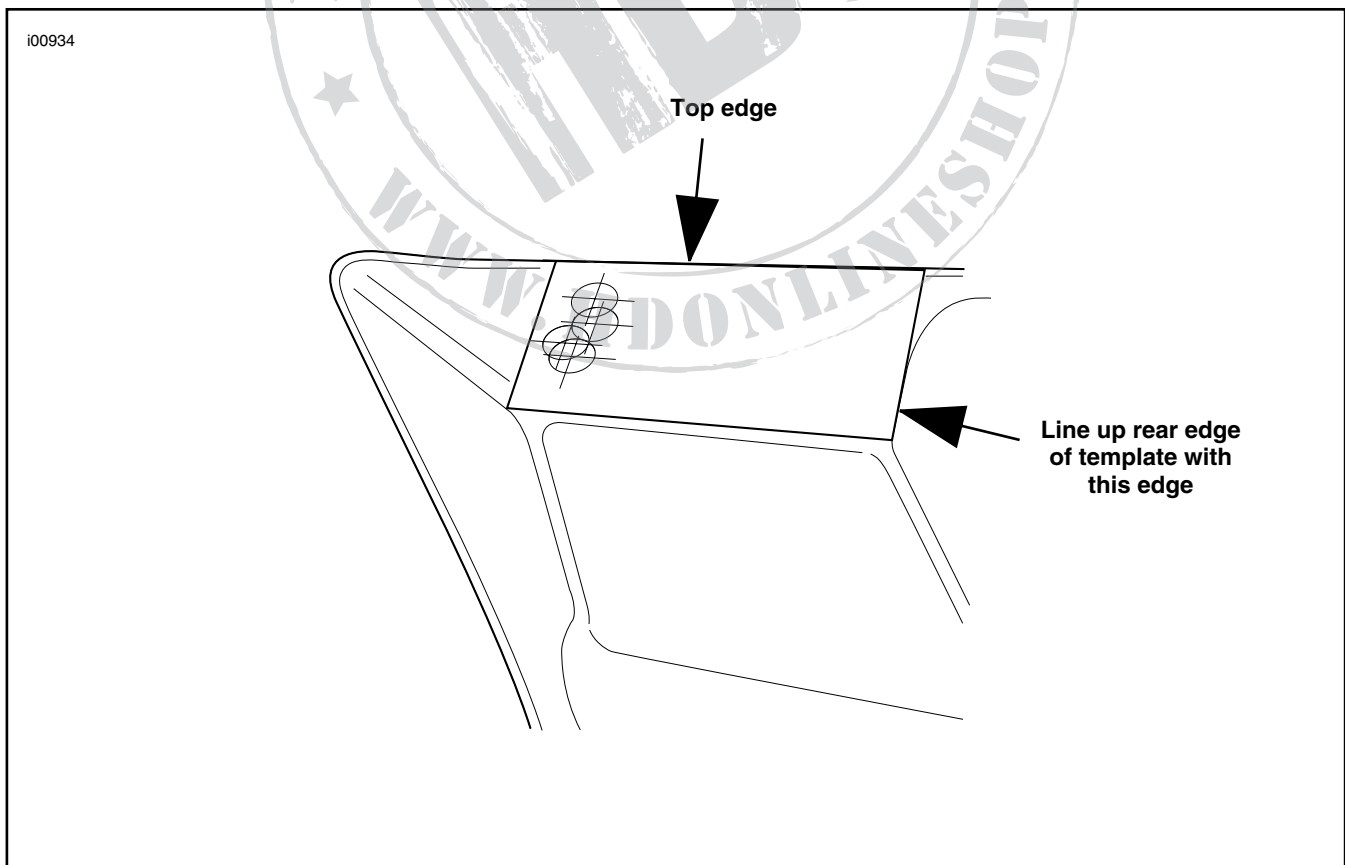

Figure 1 (left side cover shown)
3. See Figure 1. A 7/8 inch diameter hole needs to be drilled in the top of the side cover to mount the power source. It is important that the hole is properly located as follows, **before cutting**: